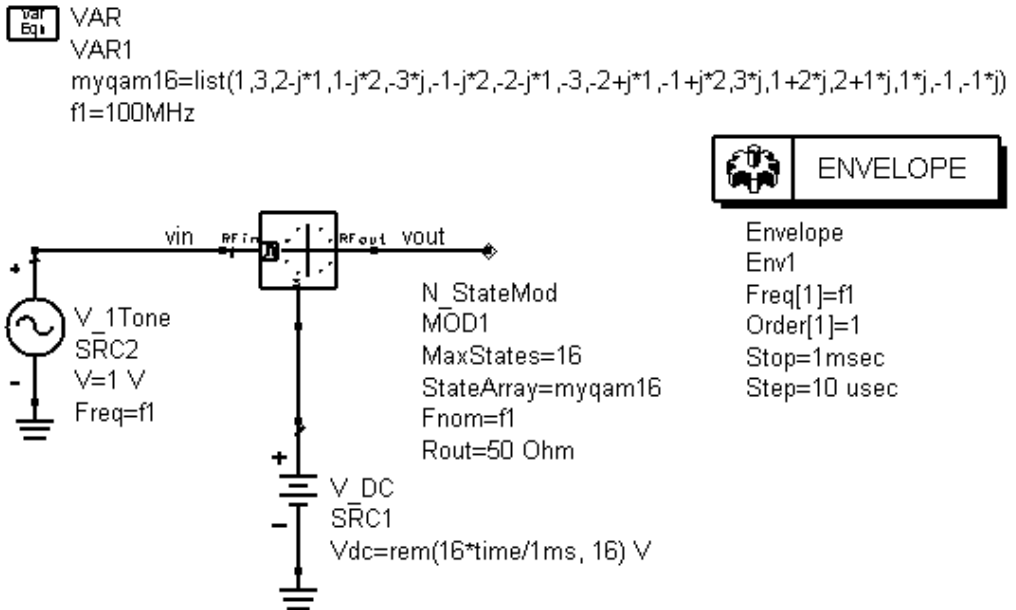

Figure 3-1. 16-State Modulation Example
- Figure 3-1** and **Figure 3-2** show a schematic example and simulation results for a 16-state modulator being swept linearly through all 16 of its states.